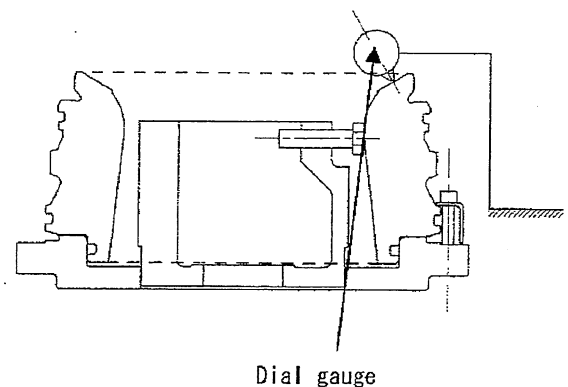

Fig.11
- Set a dial gauge to the seat surface.(As shown in Fig.11)